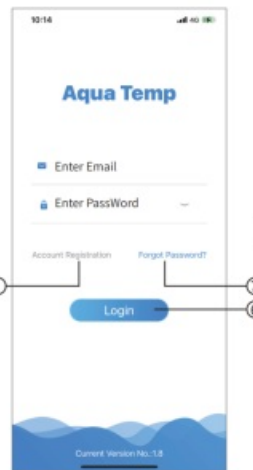

Fig.1 Login interface
1. Account Registration: To register an account, click 1 (Fig.1) to jump to the Account Registration interface, fill in the relevant information and click 2 to receive verification code, while completed the application information, click 3 to read the details of the Privacy Policy, then click 4 to agree, and click 5 , registration is done.
2. Log in: Follow the instructions on the page(Fig.1), enter your registered email address and password, click 6 and jump to device list;
3. Forgot Password: While forget your password, click 7 (Fig.1), jump to the Forgot Password interface (Fig.3).